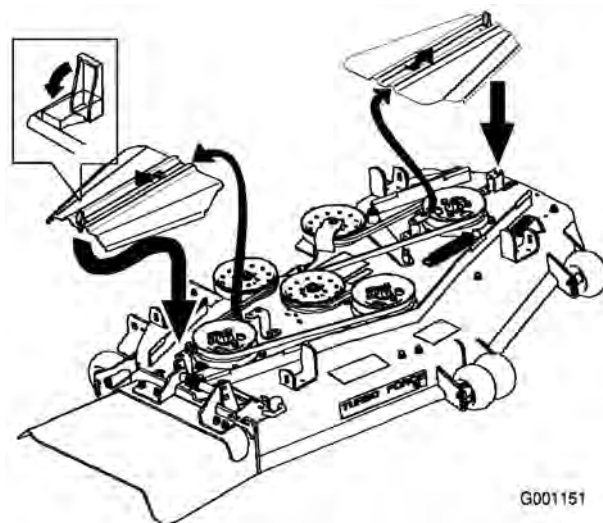

Figure 26
1. Remove the belt covers on domestic machines (Figure 26).